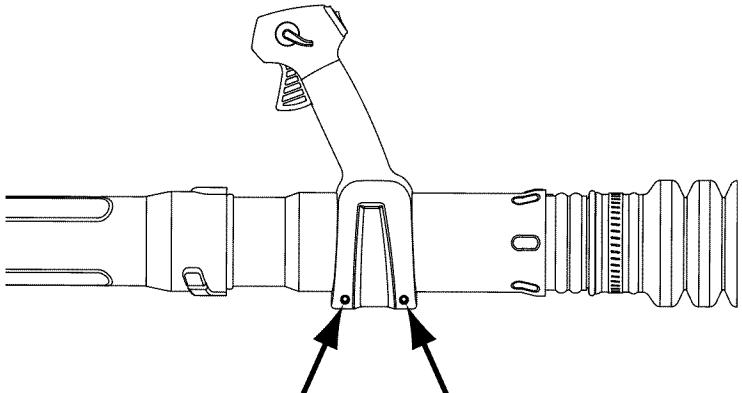

Fig. 8
2. Using a Tork T-20 Torx screwdriver, tighten the two screws at the bottom of the throttle grip (Fig. 8).